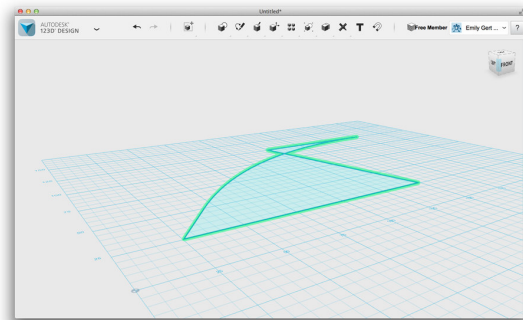

Figure 4-79 Select the sketch you want to trim
2. Click the sketch you wish to edit (Figure 4-79). The sketch must contain some overlapping lines.